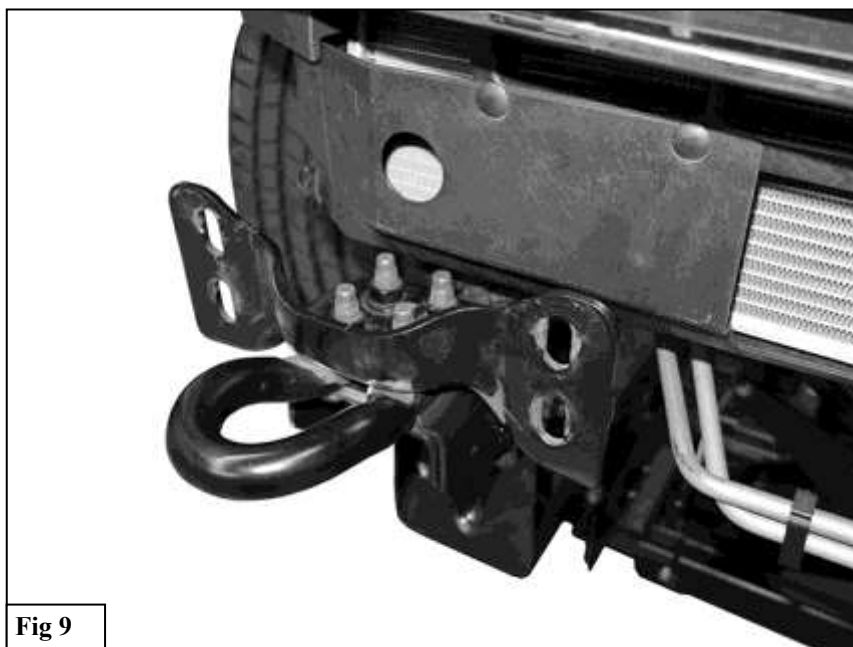

Fig 8
4. Place blocks or jack stands under the front bumper to support it during mounting bolt removal. Once the bumper has been safely supported, remove the (8) factory bumper bolts, (**Figure 8**).